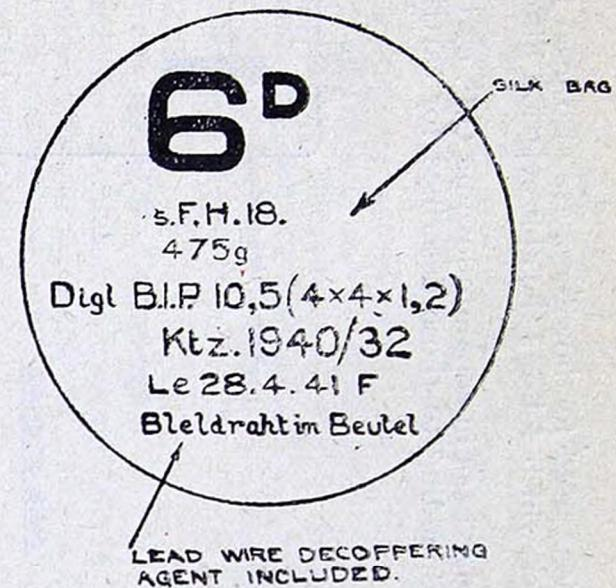

FIG. 17.—GERMAN SEPARATE LOADING Q.F. CARTRIDGE
Markings of Separate Loading Q.F. Cartridges (FIGS. 17 AND 18)
Q.F. rounds except that the designation of the equipment is included. In most instances this designation does not include the calibre. Typical markings are shown in Figs. 17 and 18.